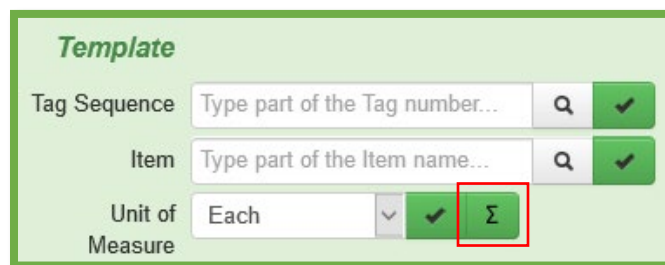

Figure 7: Auto-Sum Button in Packages Template
Users will now have a new button within the packages template that will allow for all new package quantities to be “Auto-Summed” from the source package. This button, shown in **Figure 7**, functions exactly as the Auto-Sum button does for each individual new package. Meaning, if a licensee has one source package of one hundred (100) cookies, and that licensee wanted to create ten (10) delivery packages of ten (10) cookies each. Then the source package would be the same for all ten (10) new packages. The quantity removed from the source package would be set to ten (10) each. The auto sum button when selected would populate each new package with ten (10) cookies for the quantity.